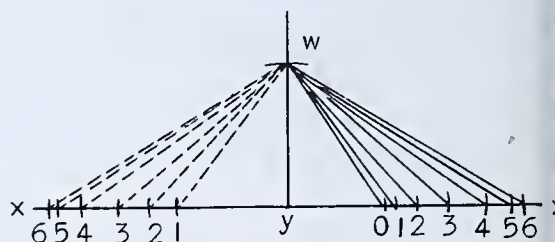

FIG. 326 — Step 19
19. Connect the intersecting points on line  $x-x$  with lines as shown in Fig. 326.
22. Set the trammels to distance  $w-y$ , full line, Fig. 326.
25. Set the trammels to distance  $l-w$  (dotted line) in Fig. 326.